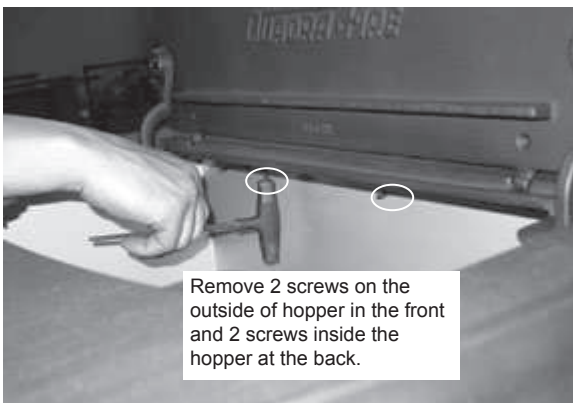

Figure 36.1
- d. Remove cast top from appliance. Two fasteners are located outside the hopper on each side. The other two are located in the hopper along the back. **Figure 36.1.** Remove the rear screen of the appliance (be sure the vent is disconnected) by removing the seven screws. Lift slightly upwards as to not damage the hopper switch and set aside.